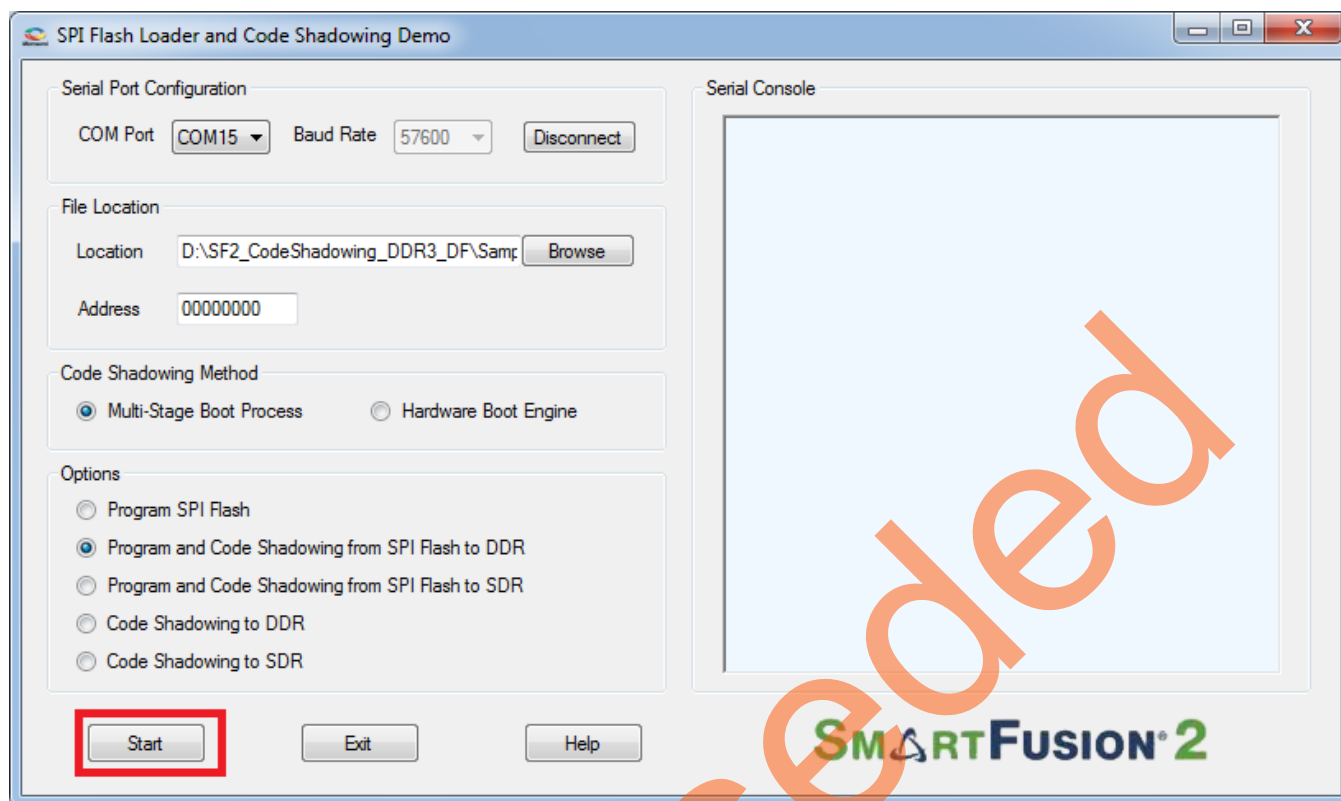

Figure 9. Starting the Demo
9. Click **Start** as shown in Figure 9 to load the executable image into SPI flash and code shadowing from DDR memory.